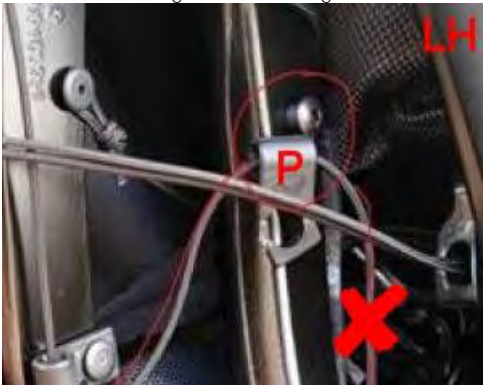

Figure 5b
Figure 5b details plastic cord guide (P) stretched and broken off the securing screw which is still in the frame